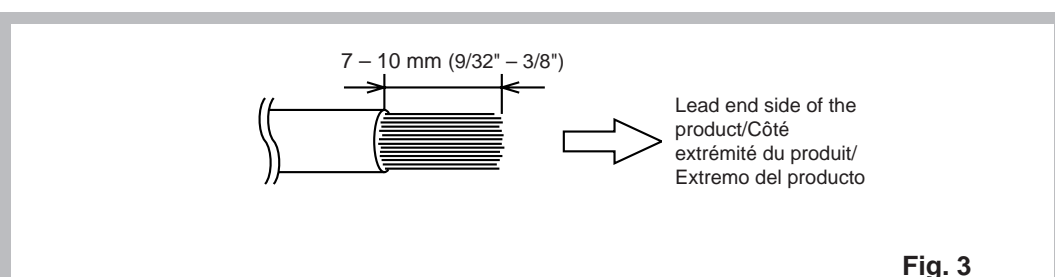

Fig. 3
2. Remove the insulation cover (insulation material such as vinyl, etc.) of the wire leads by about 7 – 10mm (9/32" – 3/8") from the lead end to exposure the conduction leads. (Fig. 3)